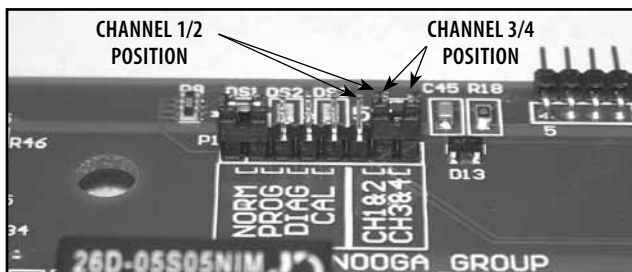

FIGURE 6.41A
1. Replace new Stim Board, part number 27056 in reverse order of steps 1-8 above. Make certain Jumpers are properly set on Stim Board. See Figure 6.41A